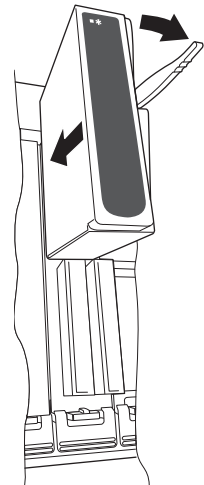

Figure 6 IO Module installation
1. Pull the module retaining lever forwards into the unlocked position as shown in Figure 6.